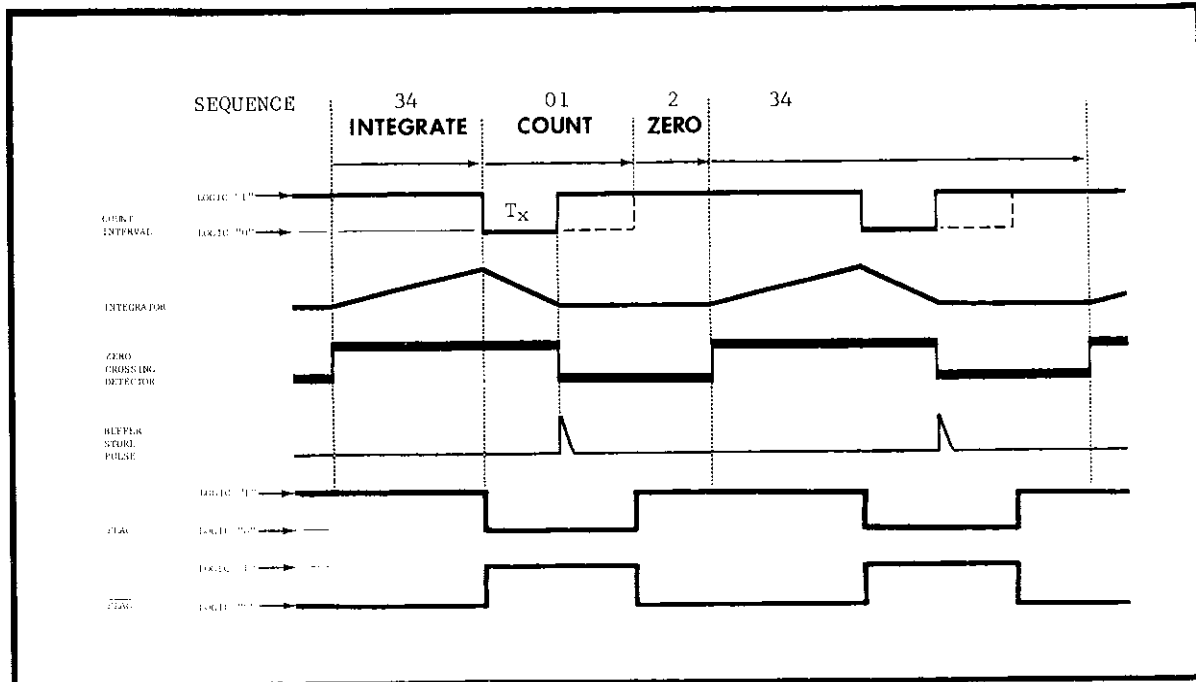

FIGURE 7. Timing Diagram.
e. Timing Diagram. The timing diagram of the Model 1712, shown as Figure 7, illustrates the time and sequence of the overall analog-to-digital (A-to-D) conversion cycle in relationship with the 1712 Digital Output.
f. Timing Outputs and Remote Controls. (Refer to Table 2-7 and Figure 7). The Model 1712 Digital Output provides various timing outputs and remote controls to regulate the transfer of data from the Model 171 DMM to a particular digital acquisition system.